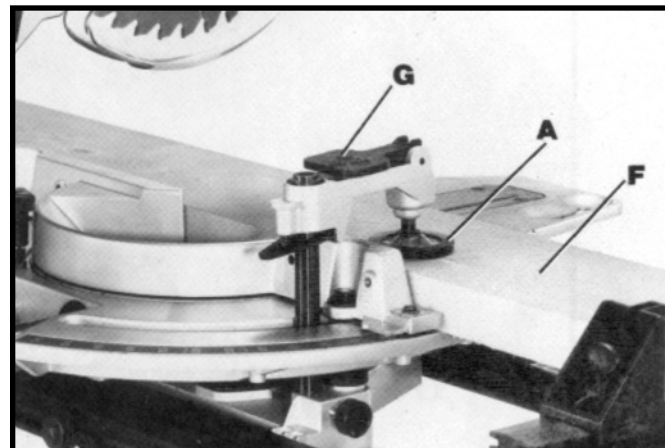

Fig. 40
3. For final clamping of the workpiece (F) Fig. 40, against the table, move cam lever (G) to the rear, as shown. After cut is completed, lift lever (G). This will raise clamp (A) slightly, allowing you to slide or remove workpiece (F).